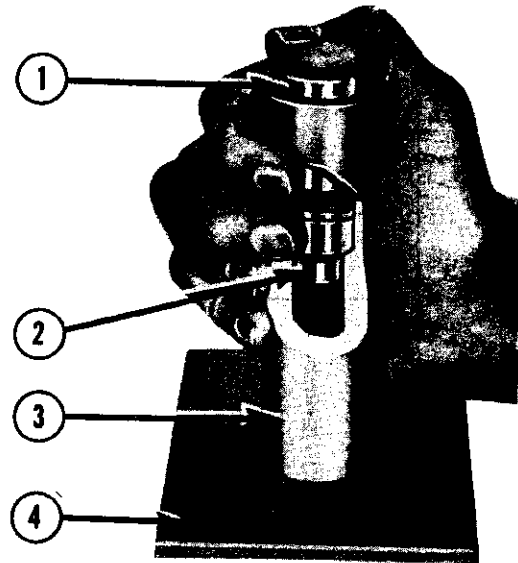

FIG. D1-20—REMOVING PLUNGER FROM VALVE LIFTER BODY
- c. To disassemble each valve lifter, depress the push rod seat with a push rod, and remove the plunger retainer from the valve lifter body with a retainer remover. Remove push rod seat and plunger from valve lifter body. If plunger sticks in valve lifter body, place body in large end of a plunger remover tool, with plunger downward. While holding lifter with thumb, rap the open end of remover against a block of wood with just enough force to jar the plunger from body. Refer to Figs. D1-20, D1-22 and D1-23.